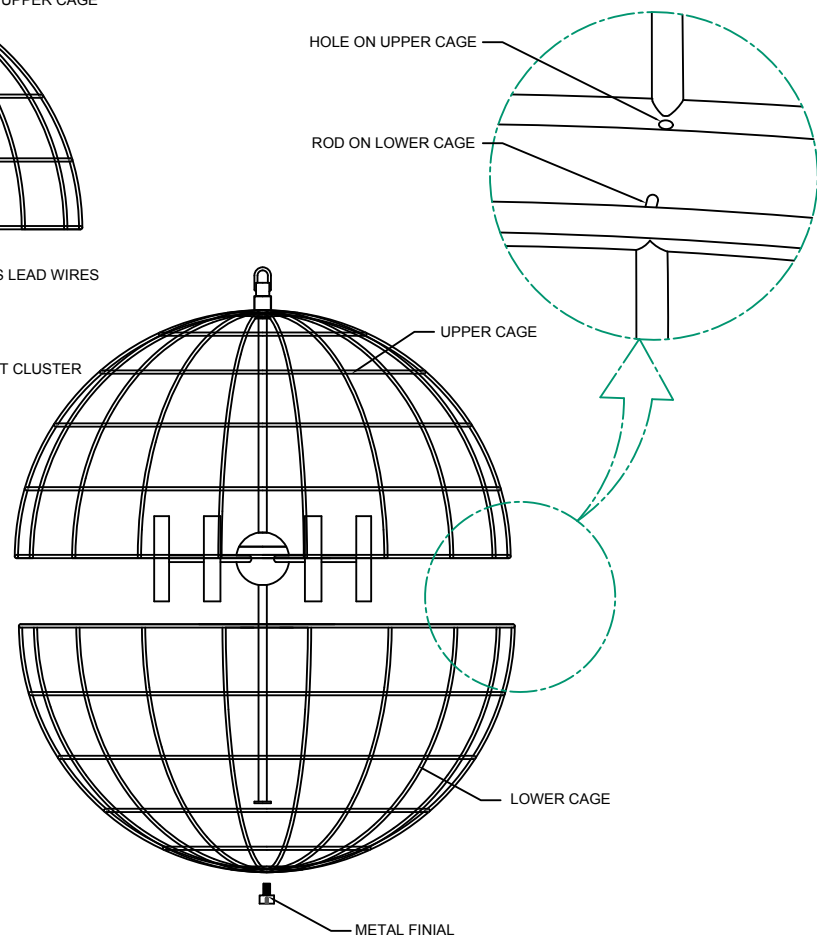

FIGURE-03
4. Attach the lower cage to the upper cage, insert the rod on the lower cage to the hole on the upper cage then align the lower cage to match the upper cage and secure using the metal finial. (See Figure -03)